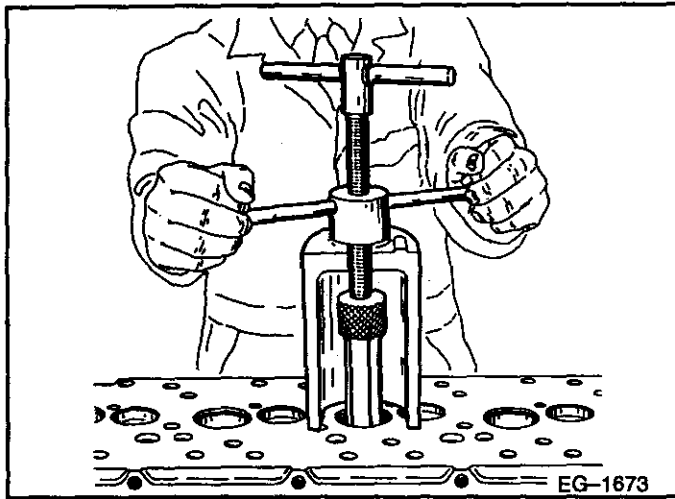

FIGURE 7-47
- d. Turn the large handle on the bridge assembly to pull the valve seat insert from the cylinder head. Refer to **FIGURE 7-47**.